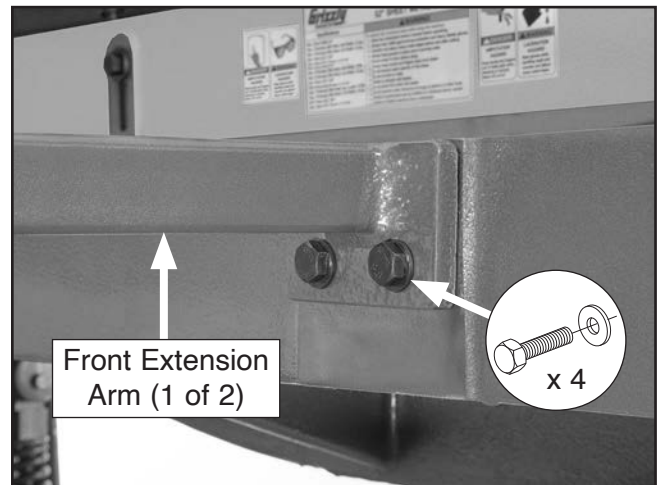

Figure 11. Front extension arms attached.
5. Attach (2) front extension arms to shear table with (4) M12-1.75 x 30 hex bolts and 12mm flat washers (see **Figure 11**).